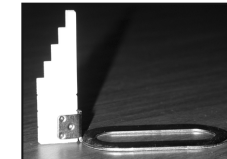

Fig. 2
Step 2. Place gauge into the gauge bracket as shown in (**Fig.2**) Lay gauge bracket on a flat surface, place gauge into the bracket "ears" upright on surface and, using pliers, squeeze "ears" closed.